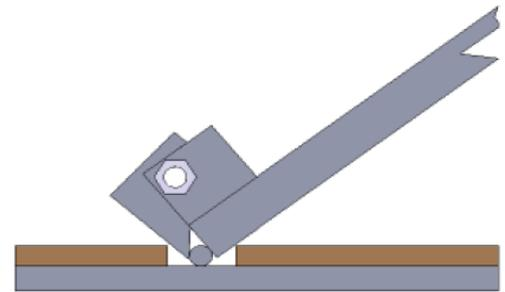

Fig.16
- Raise the lift by pushing the lifting button until the safety locks are in the released position (see Fig.16), then lower the lift by pressing the lowering lever.